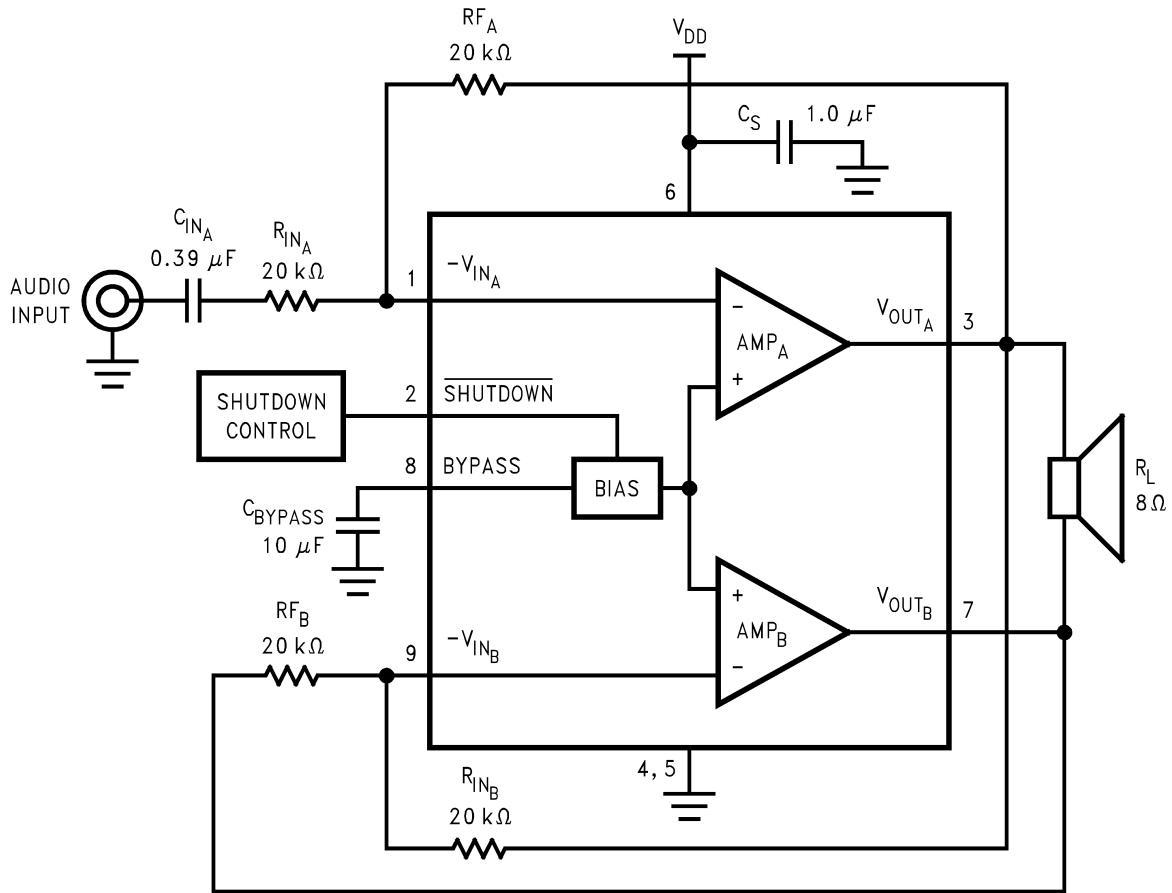

Figure 1. Typical Bridge-Tied-Load (BTL) Audio Amplifier Application Circuit
- (1) All voltages are measured with respect to the GND pin, unless otherwise specified.
- (2) Absolute Maximum Ratings indicate limits beyond which damage to the device may occur. Operating Ratings indicate conditions for which the device is functional, but do not ensure specific performance limits. Electrical Characteristics VDD = 12V state DC and AC electrical specifications under particular test conditions which ensure specific performance limits. This assumes that the device is within the Operating Ratings. Specifications are not specified for parameters where no limit is given, however, the typical value is a good indication of device performance.
- (3) If Military/Aerospace specified devices are required, please contact the Texas Instruments Sales Office/Distributors for availability and specifications.
- (4) The maximum power dissipation must be derated at elevated temperatures and is dictated by T_{JMAX}, θ_{JA}, and the ambient temperature, T_A. The maximum allowable power dissipation is P_{DMAX} = (T_{JMAX} - T_A) / θ_{JA} or the given in Absolute Maximum Ratings, whichever is lower. For the LM4950 typical application (shown in Figure 1) with V_{DD} = 12V, R_L = 4Ω stereo operation the total power dissipation is 3.65W. θ_{JA} = 20°C/W for both DDPAK and TO220 packages mounted to 16in² heatsink surface area.
- (5) Human body model, 100pF discharged through a 1.5 kΩ resistor.
- (6) Machine Model, 220pF–240pF discharged through all pins.
See Figure 1.